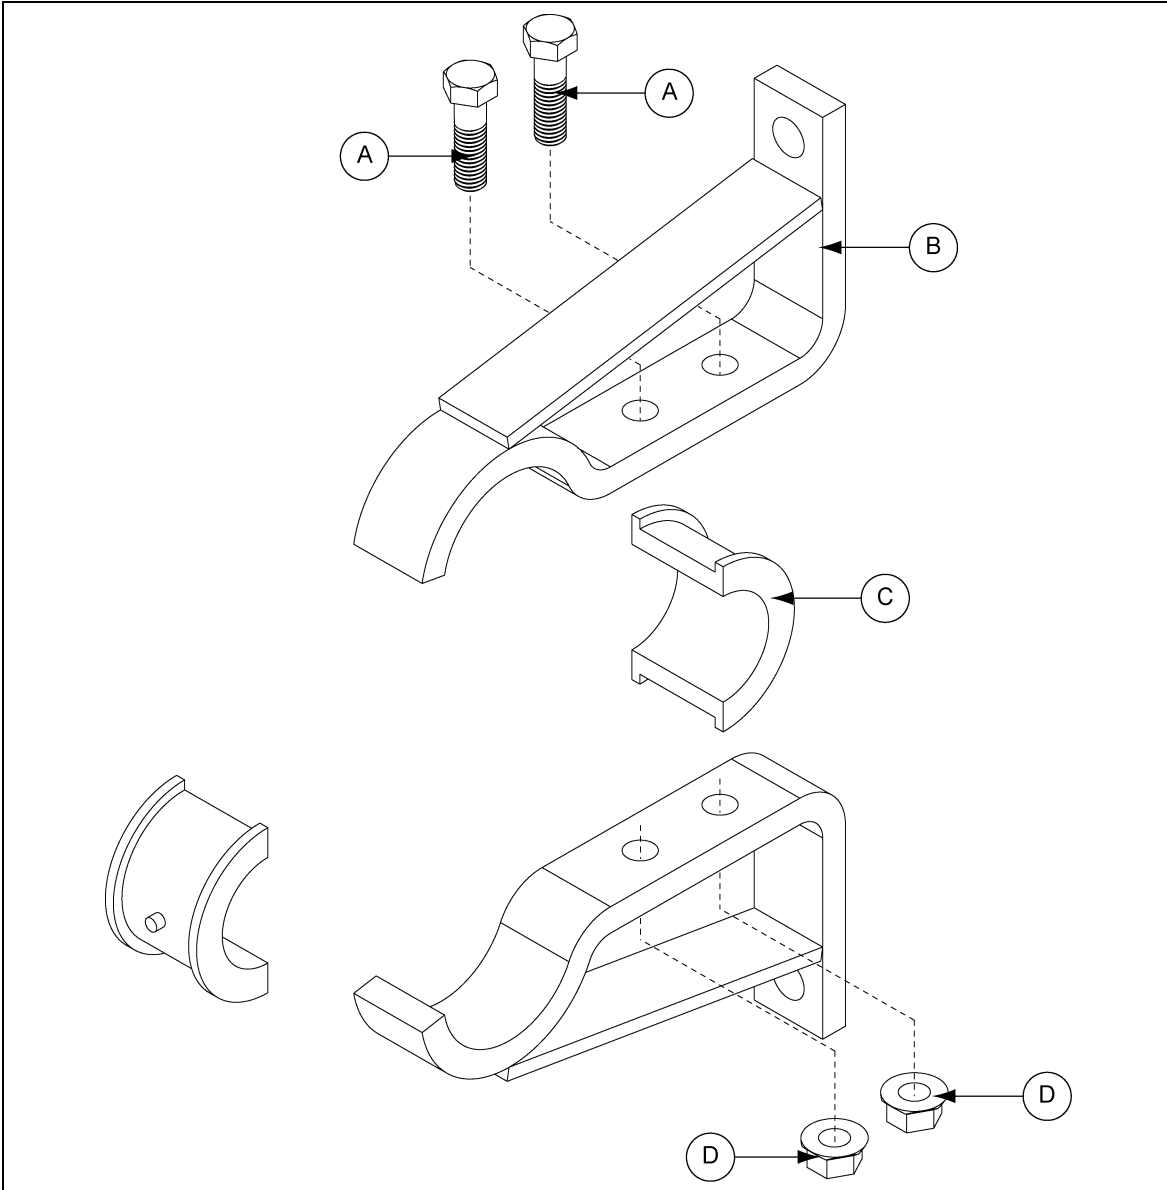

Figure 4Z
1. Bolt the bronze bearings (C) and hanger brackets (B) together using hex bolts (A) and flange lock nuts (D) as shown. (See Figure 4Z.)